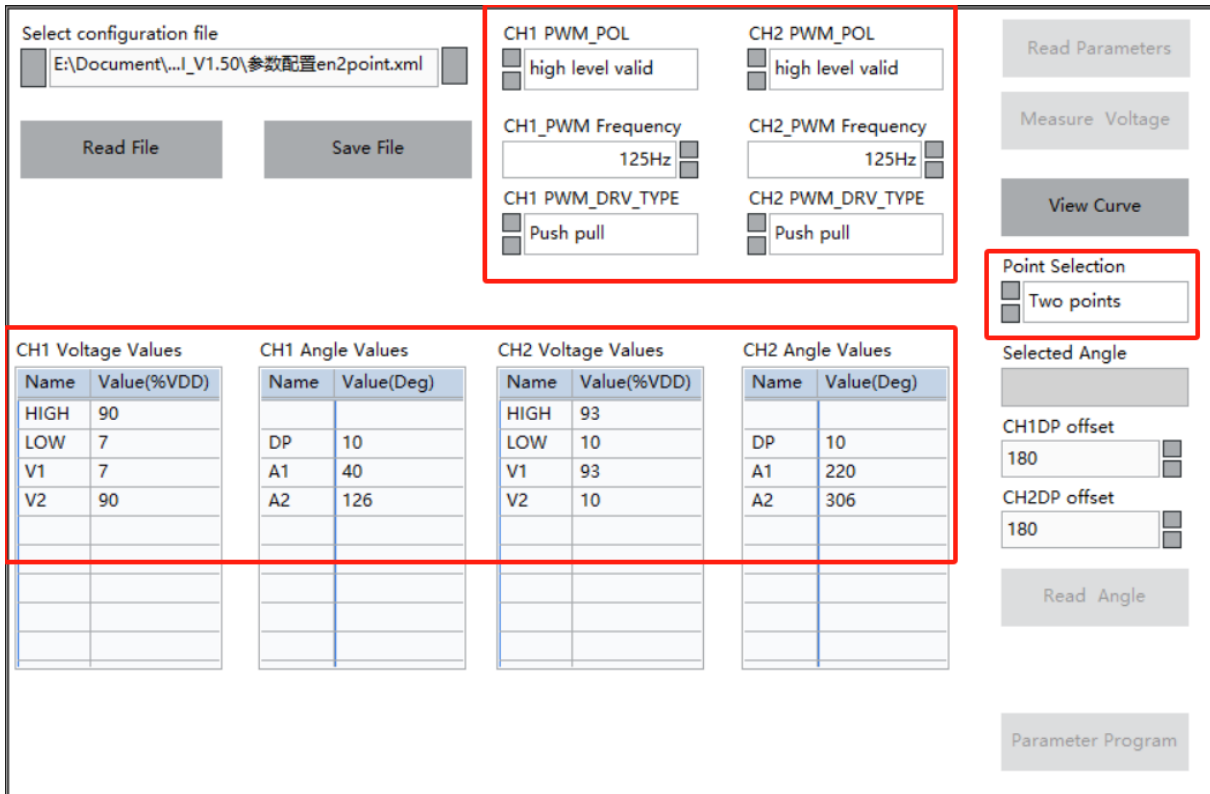

Figure 5.5.10 Two-point programming and fill in fixed parameters
- Fill in the above parameters in the corresponding parameter column "HIGH", "LOW", "V1", "V2", "DP", "PWM_POL", "PWM Frequency", and "PWM_DRV_TYPE" are fixed parameters that remain unchanged during repeated programming. The 'A1' and 'A2' parameters are manually controlled and represent the current actual angle value of the chip (Figure 5.5.10).